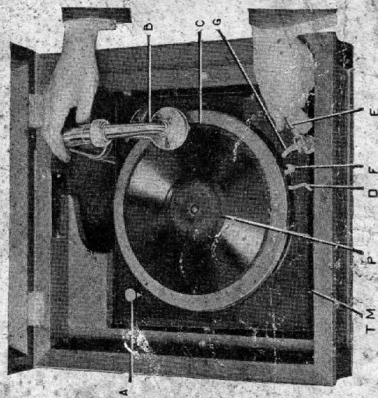
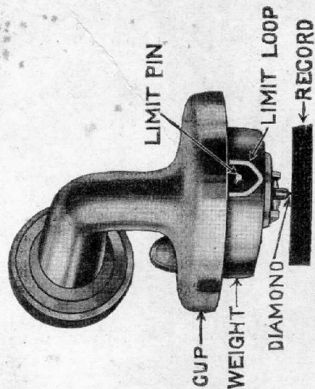

Fig. 1
Fig. 4
Refer to Figure 1.
2. With the Operating Handle (E, Fig. 1) turned down in horizontal position,
4. Carefully remove the card-board packing between Reproducer Cup (Fig. 4) and Reproducer Weight (Fig. 4), and attach Reproducer to horn as shown in Fig. 1. The Reproducer is firmly secured in place by turning the locking ring, on end of horn, to the left.
If at any time the safety stop operates too soon (on long selections) or too late, so as to permit the diamond point to run over onto the record label, it should be corrected by a slight adjustment of the hinged lever (M) to right or left as the case may require. In order to make this adjustment, it is necessary to loosen set screw (L) and when correct adjustment is made, the screw (L) must be made tight in order to hold the adjustment. The stop should be timed so as to stop turn-table when the diamond point of the Reproductor reaches the outer circle of the record label (P, Fig. 1).
- (c) If speed is found to be over 80, it may be corrected by turning the speed adjusting knob (A Fig. 1) slightly to the right until correct speed is obtained.
- (d) In rare cases the speed may be found to be less than 80 turns per minute. If speed is 78 to 80, it will be satisfactory. If speed is less than 78 and correct adjustment can not be made with speed adjusting knob (A, Fig. 1) it is to be made by means of a special adjusting screw, which will be found in the speed adjusting lever beneath top plate. This screw is reached by removing the front grille and reaching into the horn compartment to the left of the horn. When correction by the latter method is necessary, it will require the use of a screw driver.
- (a) Turn speed adjusting knob (A, Fig. 1) to right as far as it will go.
Fig. 4 shows the correct setting of the Reproducer when in playing position. Note that the "Limit Pin" is located in the center of the "LIMIT LOOP," at a distance below the "Cup" about equal to its own diameter (of pin).